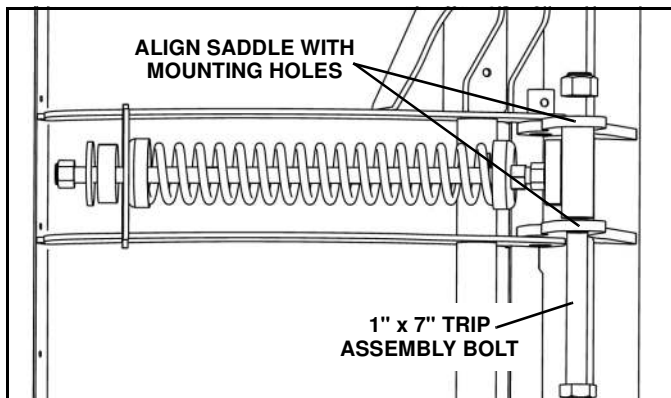

Figure 2-8
9. Apply a thin coating of grease to the main trip bolt shank (See Figure 2-8)